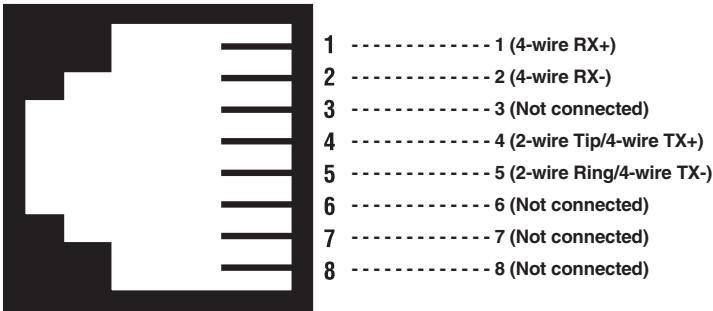

Figure D-5. RJ-45 line interface.
2. To function properly, the Card needs one or two twisted pairs of metallic wire. The twisted pairs must be unconditioned, dry, metallic wire, between 19 (0.9 mm) and 26 AWG (0.4 mm). Standard dialup telephone circuits, or leased circuits that run through signal equalization equipment, or standard flat modular telephone-type cable are not acceptable. Figure D-5 shows the pin/signal relationships of the line interface port.